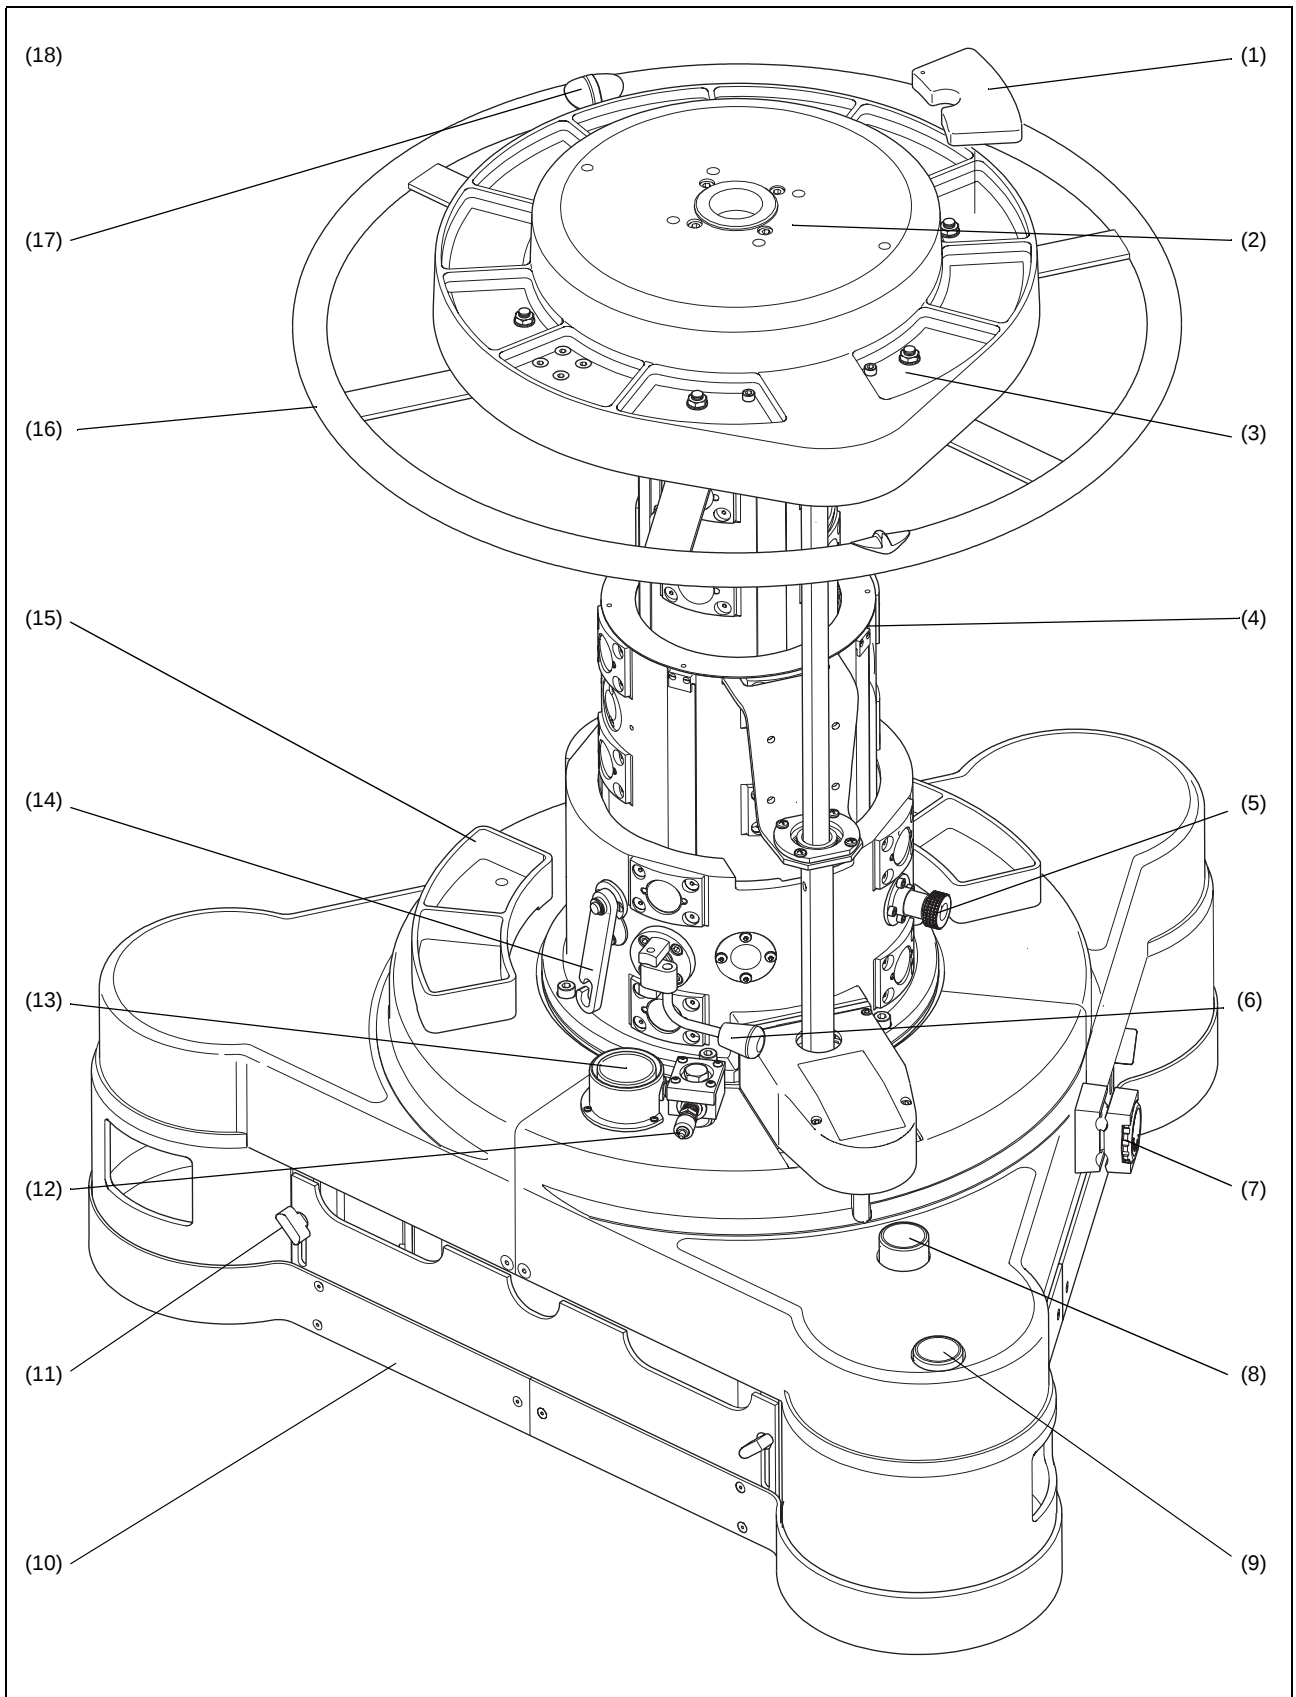

Fig 1.1 Fulmar pedestal
- 1 The Vinten Fulmar pedestal (Fig 1.1) is capable of supporting and counterbalancing a payload weighing between 22.68 kg (50 lb) and 158 kg (350 lb), which provides it with adequate capacity for the majority of cameras, camera mountings, prompters and other accessories.
1 To identify components, please refer to Fig 1.1. For further operating instructions, please refer to Fulmar Pedestal Operators Guide, Publication Part No. 3702-8.